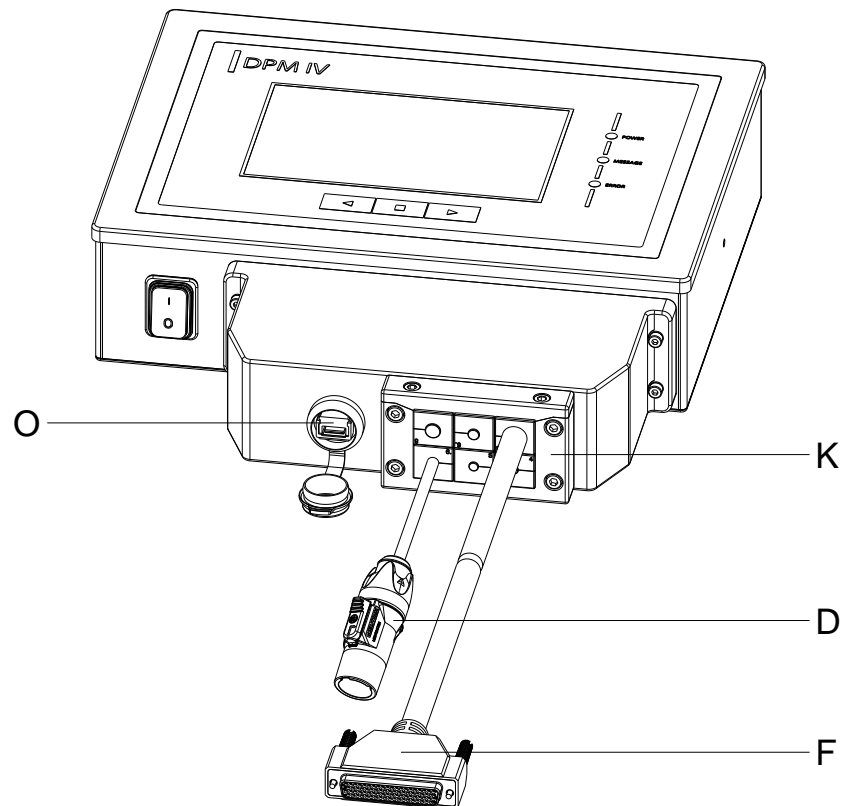

Figure 19
1. Successively remove the four screws (C) on the back on the control unit (A), slide on the sealing rings (B) and screw in the screws (C) again.
2. Connect the connection cable print mechanics/control unit (F) to the control unit (A).
3. If necessary, connect a connection cable for external inputs/outputs to the appropriate socket of the control unit (A).
4. If necessary, connect an Ethernet or USB data cable to the control unit (A).
5. Insert the USB data cable (E) on the inside of the protective cover (E) into the USB socket.
6. Guide the open end of the connection cable print mechanics / control unit (F) through the opening of the protective cover (G). The plug must be tilted sideways. Then guide the power cable (D) and if necessary, the data and I/O cable through the opening of the protective cover (G).
7. Guide the protective cover (G) in the direction of the control unit (A) until the USB data cable (E) can be connected to the control unit (A).
8. Screw the protective cover (G) to the control unit (A) with the four screws (I) and the sealing rings (H).
9. Remove the upper part of the cable entry strip (K) after removing the both screws (J).
10. Remove the cable grommets (M) that fit to the respective connection cables from the cable entry strip (K) and enclose the cables two to three centimeters in front of the protective cover (G).
11. Place the cable entry strip (K) in front of the protective cover and insert the cable grommets (M) with connection cables into the slots. The connection cable print mechanics/control unit (F) must be placed in the upper right corner and the power cable (D) should be placed on the bottom left (see Figure 19).